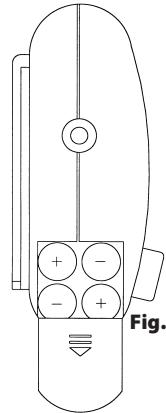

Fig. 2
2. Insert four (4) new “AA” batteries as pictured inside the battery compartment (see Fig. 2).